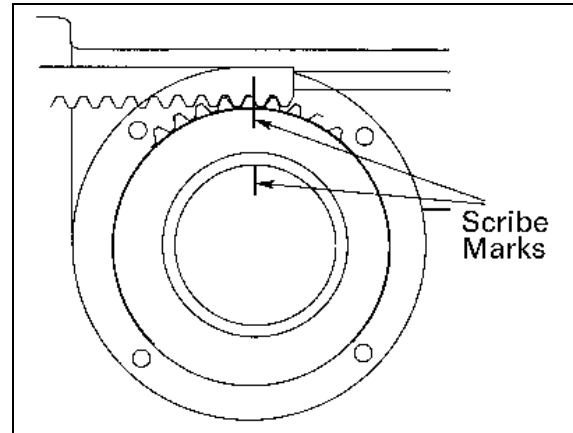

Figure 3 – Scribe Marks
7. Mark the teeth of the rack and gear as shown in Figure 3 and lift the gear sector out of the actuator; be careful not to lose the actuator drive key.